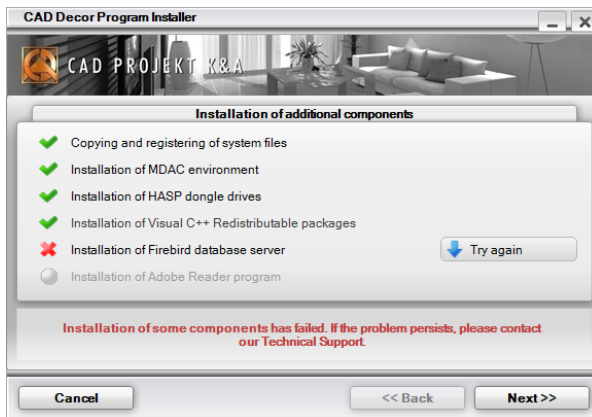

Fig. 29 – installation of a Firebird server failed – Try again option available
It may happen that the installation of some of the additional components fails. In such situation the installer will enable to try to install them again (Fig. 29). If even
**Design Selection** dialog is displayed straight after the start of the program. This dialog is designed for creating new designs and opening the existing ones (Fig. 29). In order to open an existing design, select the required file in the displayed table and press **Open document** button.